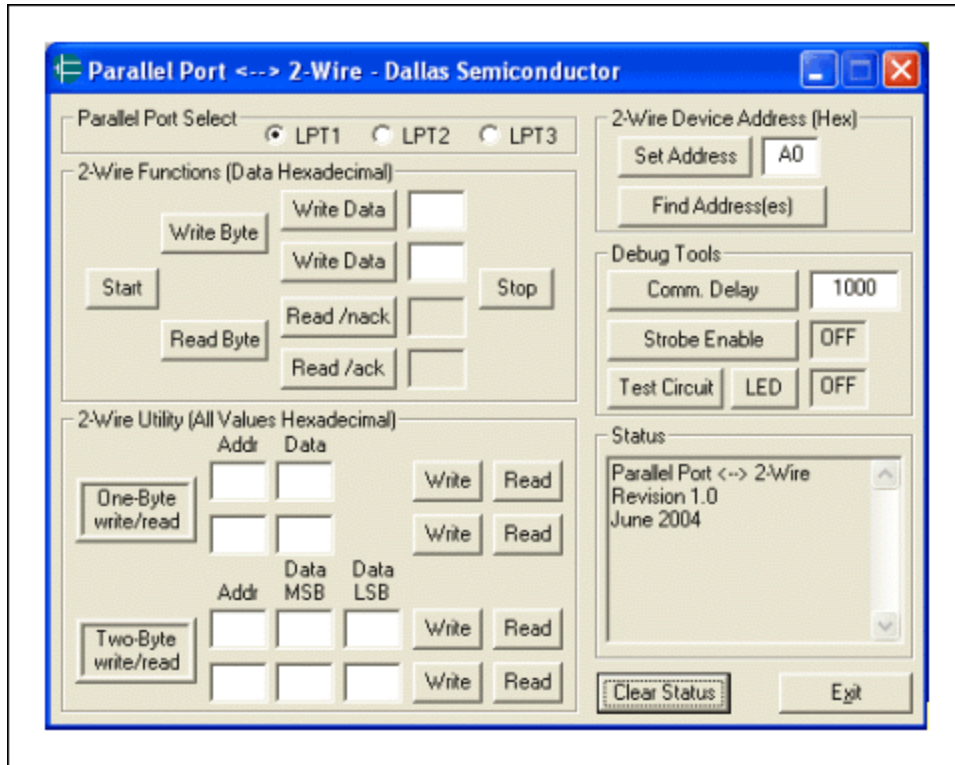

Figure 2. Parallel-Port, 2-Wire software running on Windows XP.
7. Start the ParDS2W.exe application (**Figure 2**), which will now operate as it would normally on a Windows 95/98 computer.